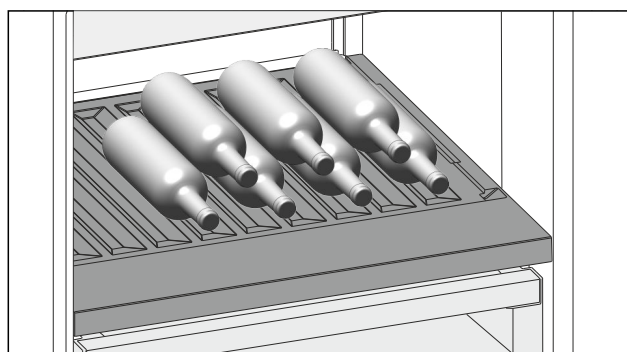

Fig. 189 Example illustration
- Place bottles in the back row with their bases against the back wall. (see Fig. 189)